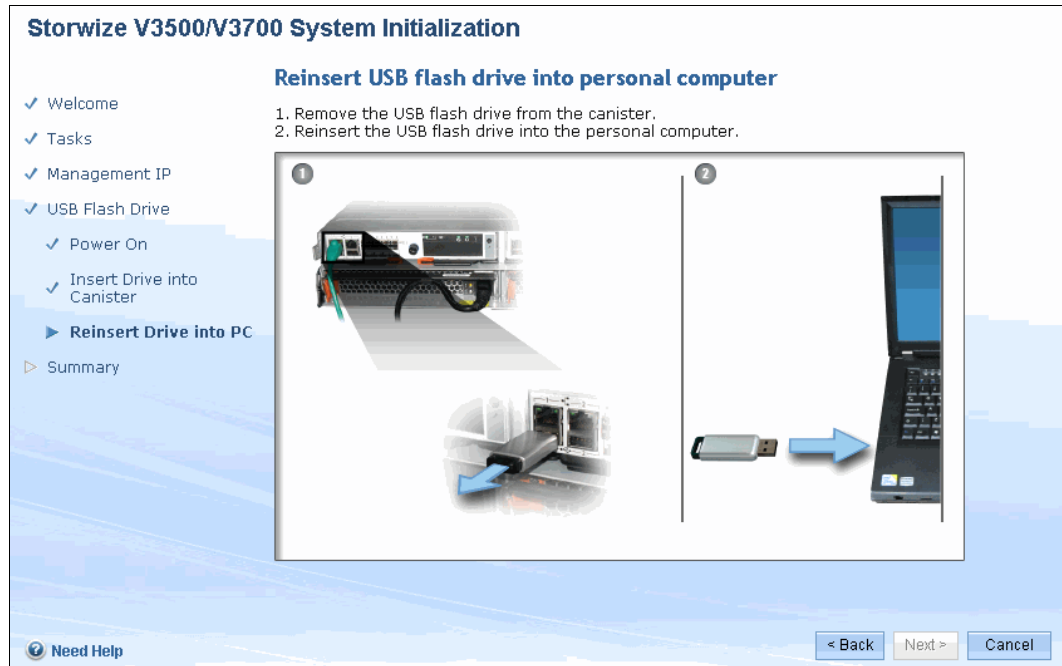

Figure 2-14 Returning the USB stick to a PC
7. When it stops, return the USB stick to the personal computer (PC), as shown in Figure 2-14.